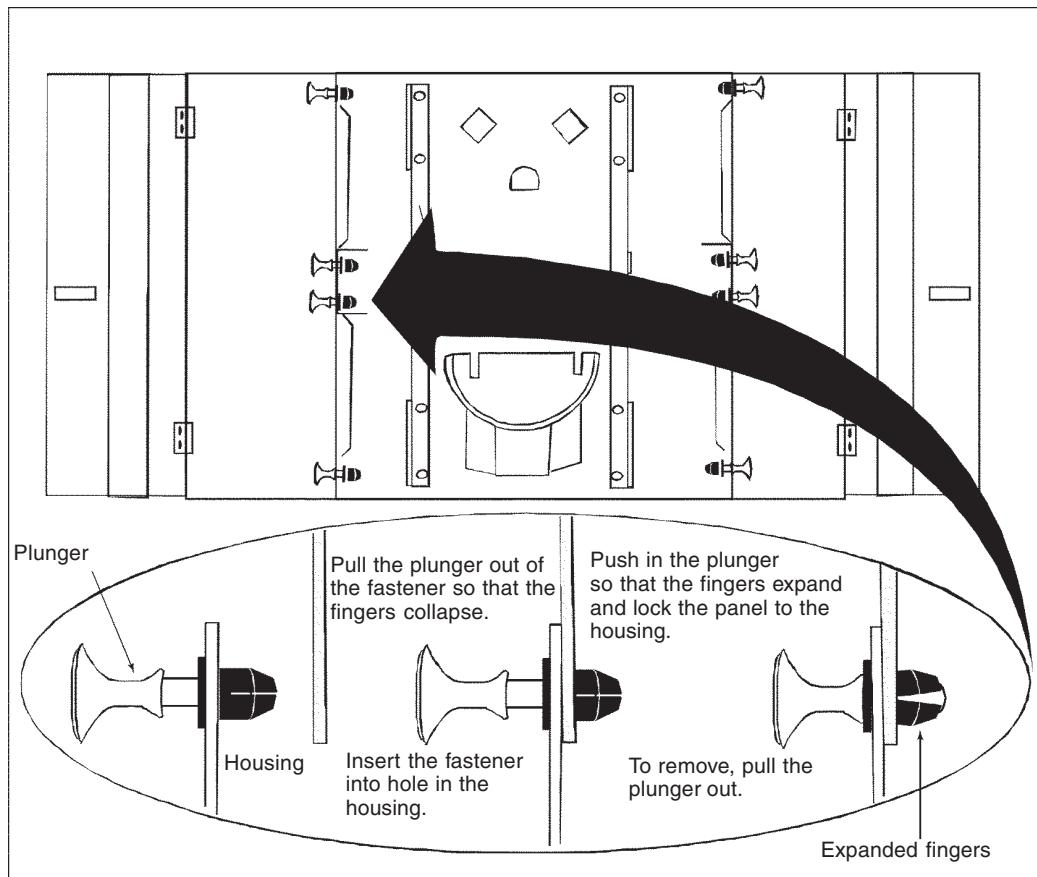

Fig. 21
Place and fasten the nuts provided to hold the bracket and holder in place. Swing the tray holder into its closed position and push the plunger into the hole to secure (see also Fig. 21).
10.2 Panels can be mounted or demounted as shown in Fig. 21.